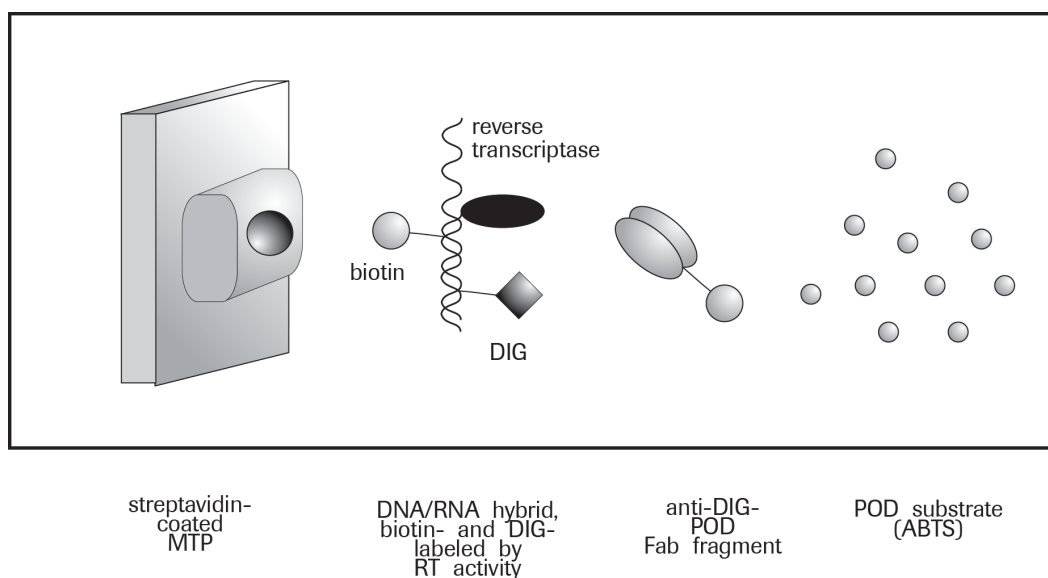

Fig. 4: Test principle
Fig. 3: Comparison of reverse transcriptase levels in various dilutions of HIV-1 enriched by PEG precipitation from 1 ml culture supernatant of HIV-1-infected HUT 78 cells. RT activity was determined with the Reverse Transcriptase Assay, colorimetric without substrate enhancer, using the protocol in the Instructions for Use (□), or with a standard RT assay measuring the incorporation of the radioisotope [³H]-dTTP (●) into the template/primer hybrid poly (A) × oligo (dT)₁₅ supplied with the kit. The background activity with analogous preparations of the culture supernatant of non-HIV-1-infected HUT 78 cells (diluted 1:8) after subtraction of the nonspecific background activity was at an absorbance of 0.01 for the Reverse Transcriptase Assay, colorimetric [bg (abs.)] and at 153 cpm for the isotopic RT assay [bg (cpm), dashed line]. With the detection limit defined to be a signal level of twice the background, RT activity was detected with both methods in culture supernatant at a dilution of 1:1024. The detection and quantification of synthesized DNA as a parameter for RT activity is based on the a sandwich ELISA protocol (Fig. 4).